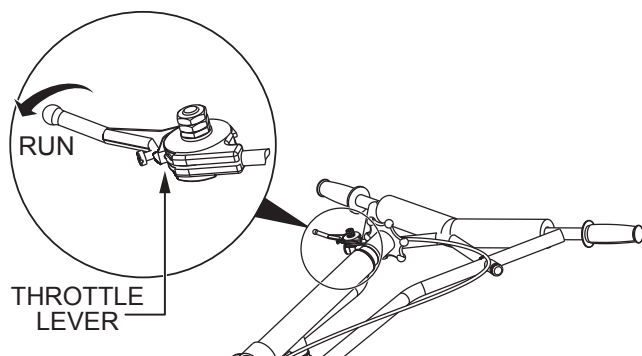

Figure 8. Throttle Lever (Run)
3. Place the throttle lever (Figure 8) in the **RUN** position.